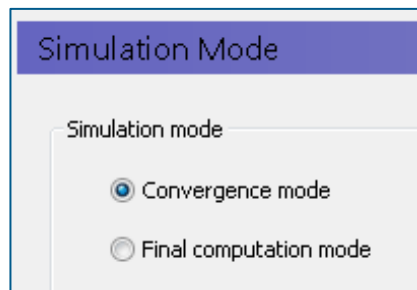

Figure 3.20 Simulation Mode - Convergence
6. Set the Simulation Mode to *Convergence mode* as shown in Figure 3.20.